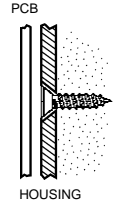

Figure B.4:
9. Mount the back cover using two screws and replace the PCB. Use ISO 7050 (ST3.5 x 22) or similar countersunk screws so that the screw head will not touch the PCB – see Figure B.4.
10. Mount the back cover to the wall using two screws and replace the PCB. Use ISO 7050 (ST3.5 x 22) or similar countersunk screws so that the screw head will not touch the PCB – see *Figure B.4*.